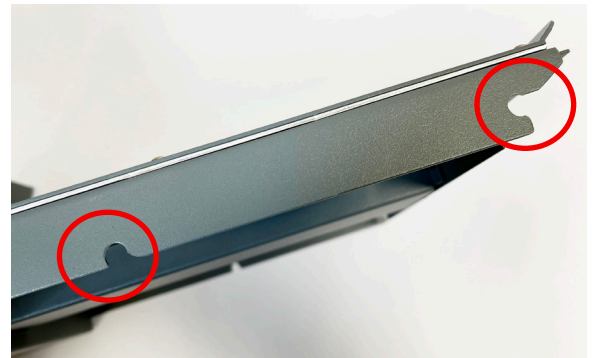
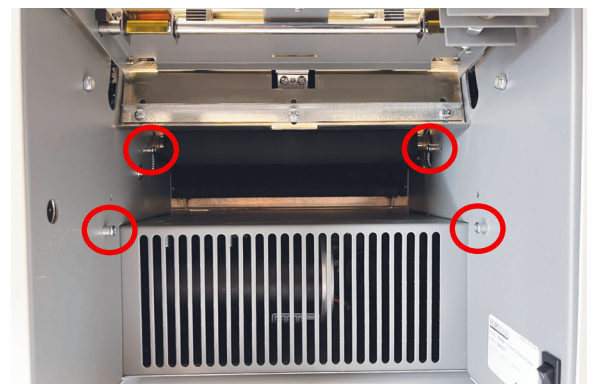

Fig. 2b
Fig. 2c
2. Locate mounting notches on the fold table (Fig. 2b) and the fold mounting pins on the unit (circled in Fig. 2c).